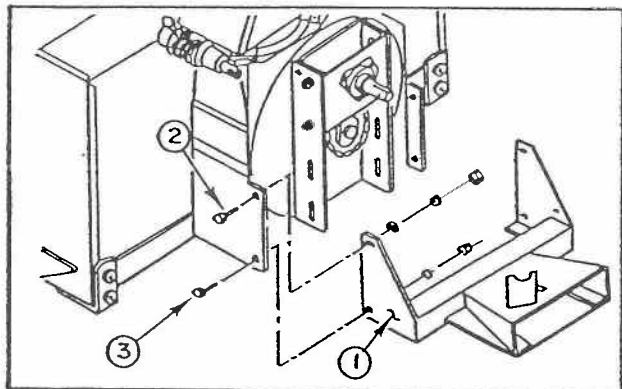

FIGURE 9
- b) Attach female portion of hitch (fig. 9, item 1) to snowblower using one 3/8" x 1" bolt in the upper hole of each side (fig.9, item 2), placing the bolt head on the outside, with a flatwasher, lockwasher and nut on the inside. Use one 1/2" x 1" bolt, lockwasher and nut in the bottom hole of each side (fig.9, item 3). Secure loosely.
- d) Make sure blower is 90o to a level surface, and tighten bolts (fig.9, items 2 & 3).